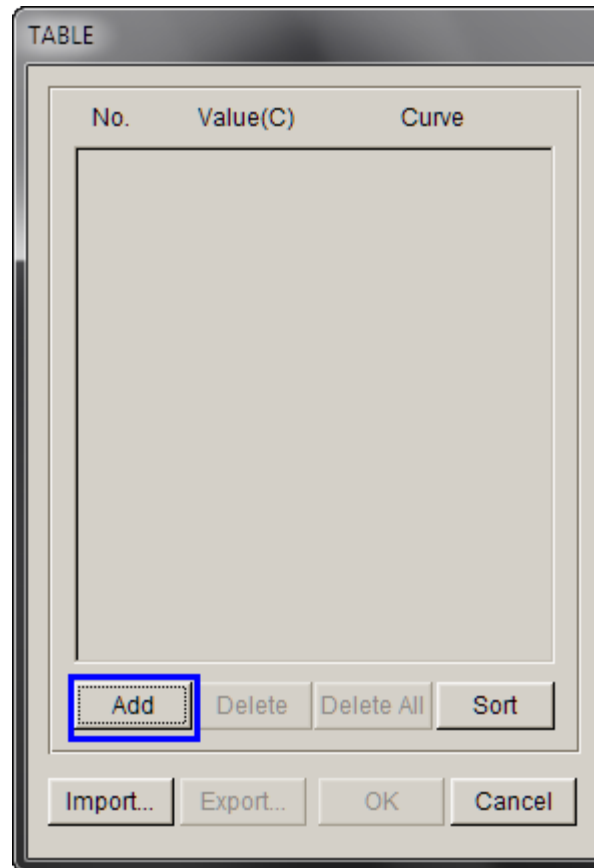

Figure 20
2. The **Table** pops up. Click **Add** in Figure 20.